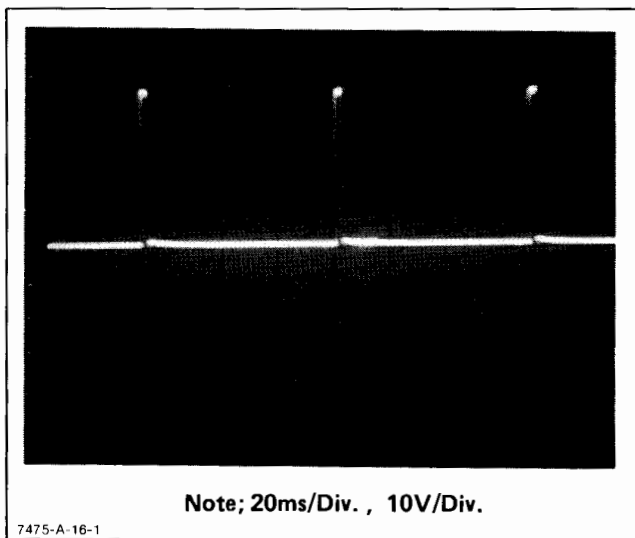

Figure 6-6. Drive Signal Pulses
- g. Use an oscilloscope to look at the drive signal at the connector. This should be a series of narrow pulses. See Figure 6-6. If not, the problem is in the motor drive circuit, servo IC, gate array, or the microprocessor.